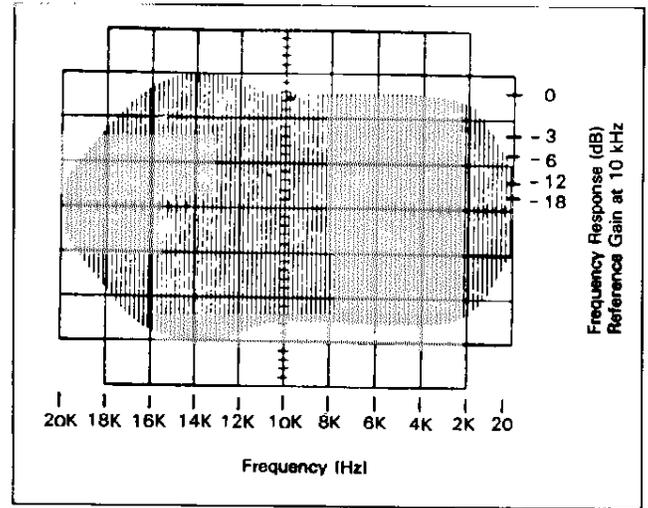

Fig. 38 Frequency Response Measurement, Envelope Response.
4. A standard probe will result in an envelope display such as shown in Fig. 38. The example in Fig. 38 results from a negative-going sweep ramp voltage as frequency increases, with the higher frequencies at the left side of the display. If the sweep ramp voltage is positive-going as frequency increases, the higher frequencies are at the right side of the display.